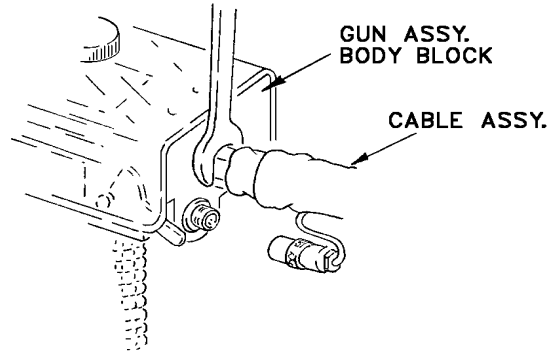

Figure 4-3
1. Remove cable assembly from gun assembly. (Refer Figure 4-3).
5.2 Reconnect control cable (Ref. Figure 4-3).